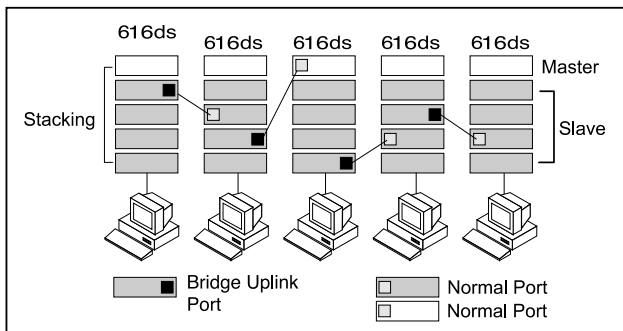

Figure 3-4 Unlimited cascading of ALH-616ds.
- By way of an uplink port with a Bridge function, the limitations on 100Mbps hub count(maximum 2) can be eliminated. The hub count is unlimited and cable length between hubs can reach 100 meters, as shown in Figure 3-4.